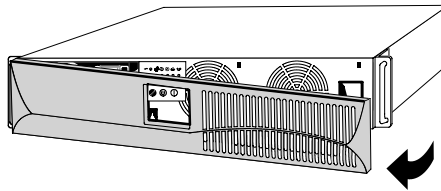

Figure 29. Removing the UPS Front Cover
1. Remove the UPS front cover (see Figure 29).